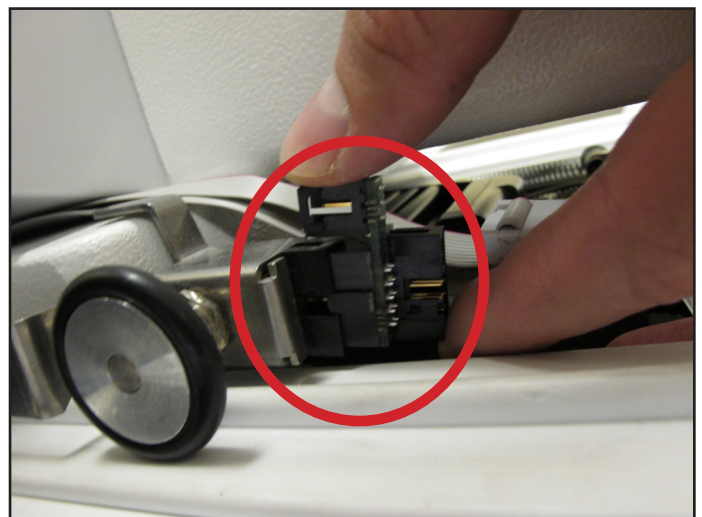

Figure 27
11. Plug the new adapter board into the Y-axis encoder (*Figure 27*).